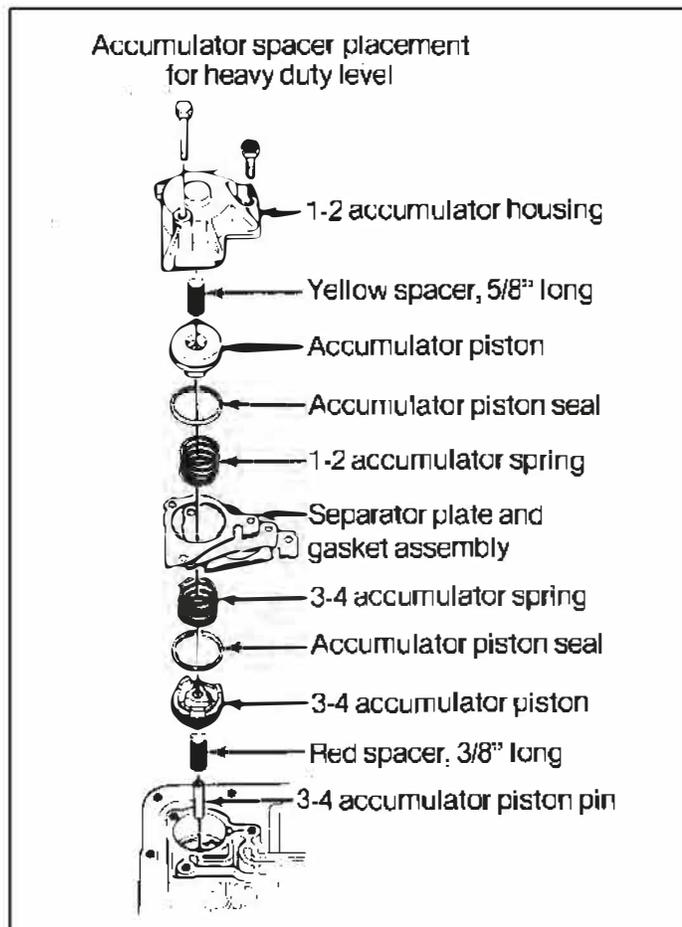

Figure 10
STEP 5. Beginning mid 1987 model year, TH-700's have an auxiliary valve body located where earlier models have a cover plate (See Fig. 2.) Remove the cover plate or auxiliary valve body. Be careful not to drop the check ball located in the auxiliary valve body (See Fig. 8.) Remove the 1-2 accumulator housing while holding the separator plate up to the case. Then slowly lower the separator plate and retrieve the check balls located above the plate. Make note of the **color** and **location** of the 1-2 and 2-3 accumulator springs for correct reassembly (See Fig. 10.) Remove all old gasket material from
STEP 13. Heavy Duty Only; Place the 3-4 accumulator pin in the case. Over the pin place the **RED** (3/8") spacer sleeve, accumulator piston and spring (spring is installed at step 18.) Use a dab of grease or petroleum jelly to hold components in place (See Fig. 10) Proceed to step 15.
STEP 15. Heavy Duty Only; Remove the spring and piston from the 1-2 accumulator housing (See Fig. 10.) Install over the pin the **YELLOW** spacer, piston (notice orientation) and spring. Proceed to step 17.